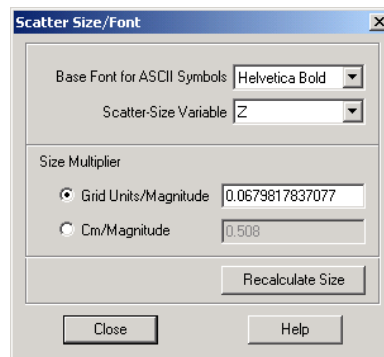

Figure 13-5. The Scatter Size/Font dialog.
5. If you click Size by Variable, the Scatter Size/Font dialog appears asking you to choose a scatter-sizing variable. (See Section 13.5.2, “Variable Symbol Sizes,” for complete instructions for sizing scatter symbols by variable.) From the Scatter Size Variable drop-down, choose the variable you want to use to size the scatter symbols. Specify a size multiplier by selecting one of the two options labeled Grid Units/Magnitude or Cm/Magnitude, then enter a value in the text field. The Scatter Size/Font dialog is shown in Figure 13-5.